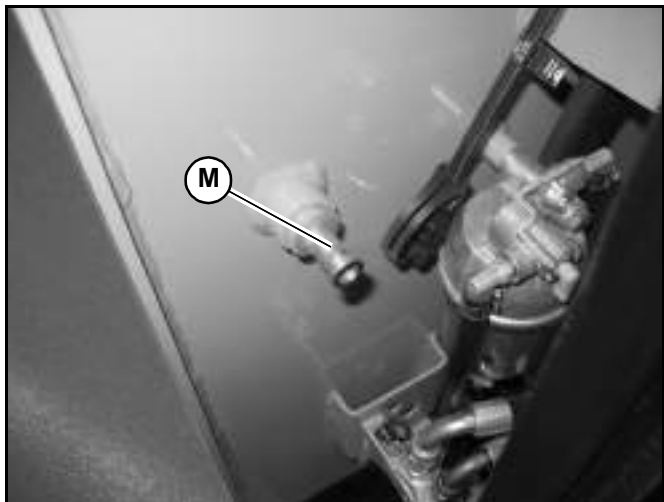

Fig. 44 – Chassis Ground/Rear Door Catch
5. Connect the free end of the positive jumper cable to the positive (+) terminal (P) on the booster battery
6. Connect the negative jumper cable to the negative (-) terminal (N) on the booster battery.
7. Open the rear door of the engine compartment (“Engine Access” on page 103) and connect the free end of the negative jumper cable to the rear door catch (M, Fig 44) in the engine compartment.